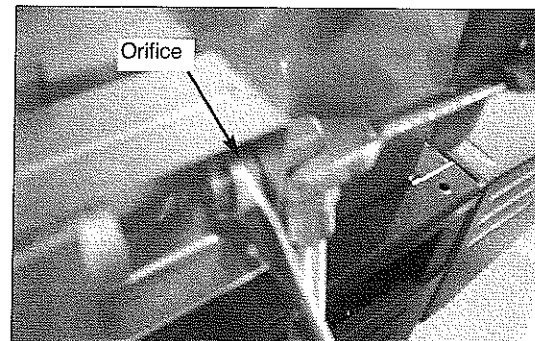

Fig 30
46. Use the 9/16" wrench to remove the LP orifice. (See Fig. 30)
47. Install the NG orifice. (See Fig 30)